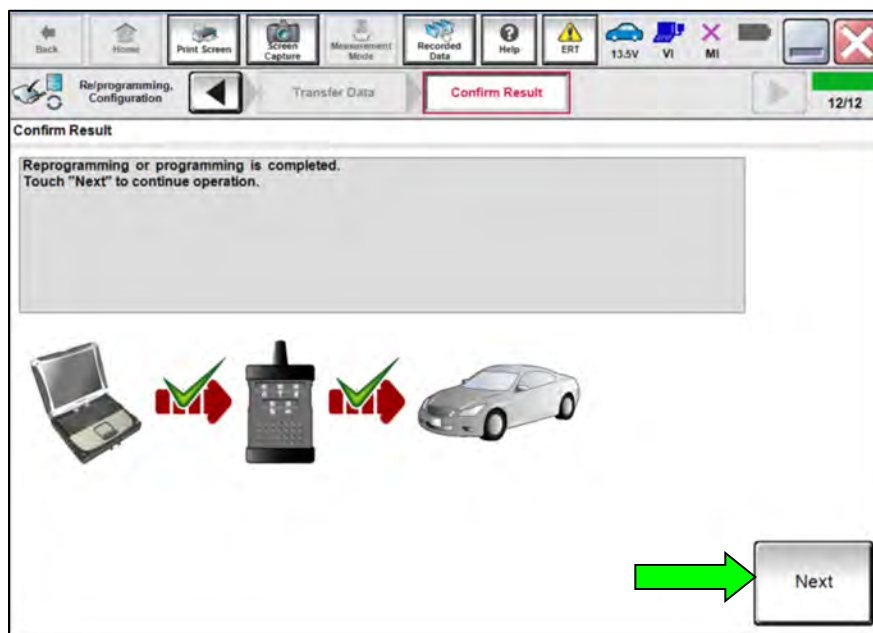

Figure 30
36. Once the screen in Figure 30 displays, reprogramming is complete. Select **Next**.